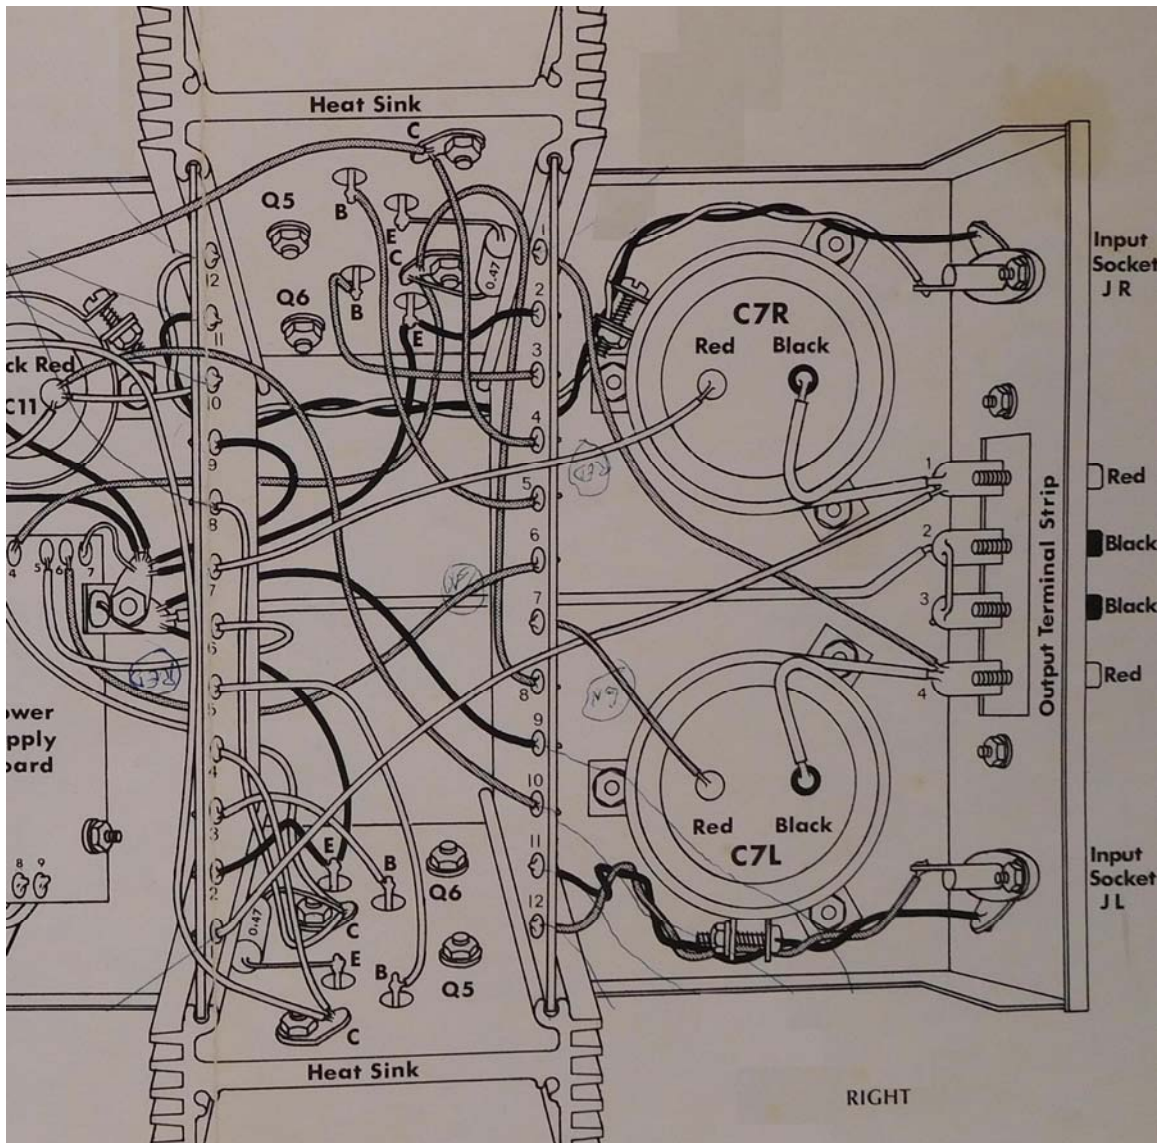
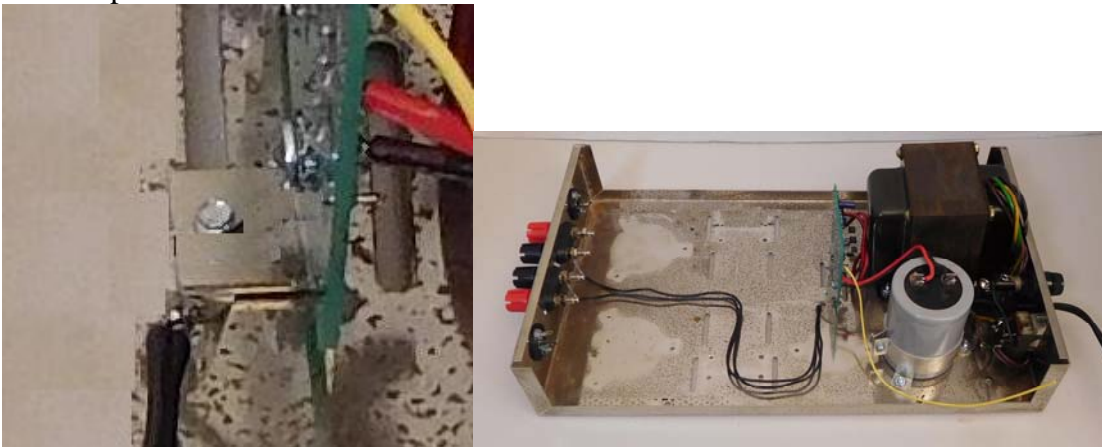

Figure 7-Audio Connector Side of the Amplifier
Figure 8-Grounding arrangement for speaker common connections
Refer to Figure 7.
- c. Form the wire as shown in the right side of Figure 8.
5. Insert and finger tighten a 6-32x1/4" sems screw from the bottom of the chassis, through the chassis, the lug, and into the power supply mounting bracket. See the left side of Figure 8.
8. Route the ground wires as shown in Figure 8. The roundabout shape leaves room to mount the amplifier modules in a later step. Connect the free ends of the two black ground wires to the common terminals (terminals 2 and 3 in Figure 7) of the speaker terminal board.